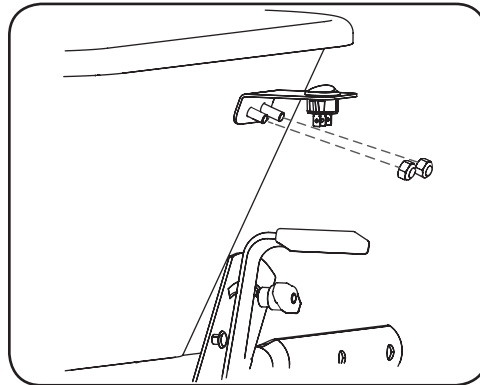

Figure 1-12
- Install the motor ON/OFF switch onto the right side of the hopper using two hex screws, washers and locknuts. By threading the hex screws through the washers, then through the hopper. Secure the motor ON/OFF switch to the outside of the hopper with the locknuts. See Figure 1-12.